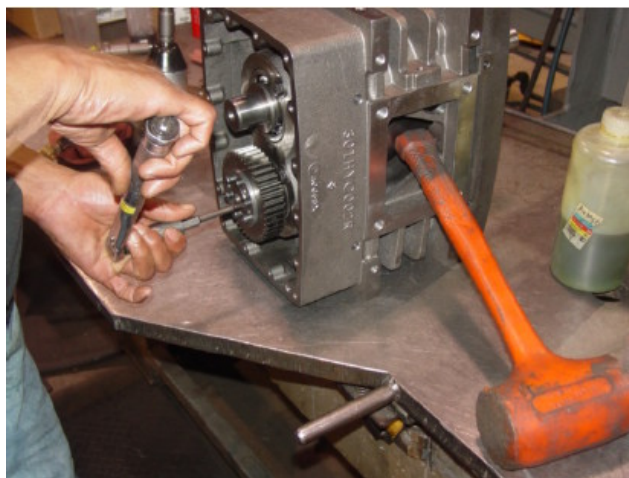

FIGURE 7-6 – TIGHTEN GEAR LOCKING SCREWS
43. Use a torque wrench to tighten the screws to 50 in.lbs in a diametrically opposite sequence. Ensure that none of the screws will turn when 50 in.lbs is applied to them a second time. See FIGURE 7-6.